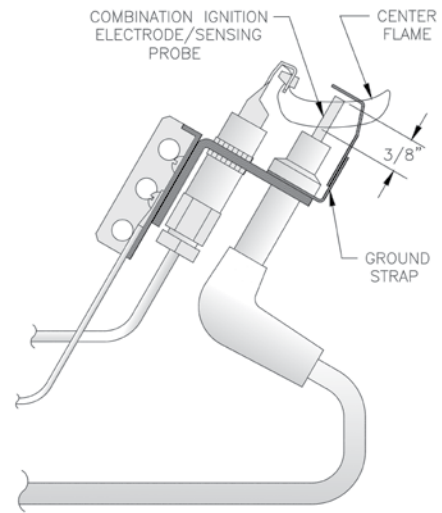

Figure 17: Pilot Burner Flame
- J. Check pilot burner flame.** See Figure 17. Flame should be steady, medium hard blue enveloping 3/8 to 1/2 inch of sensing probe.